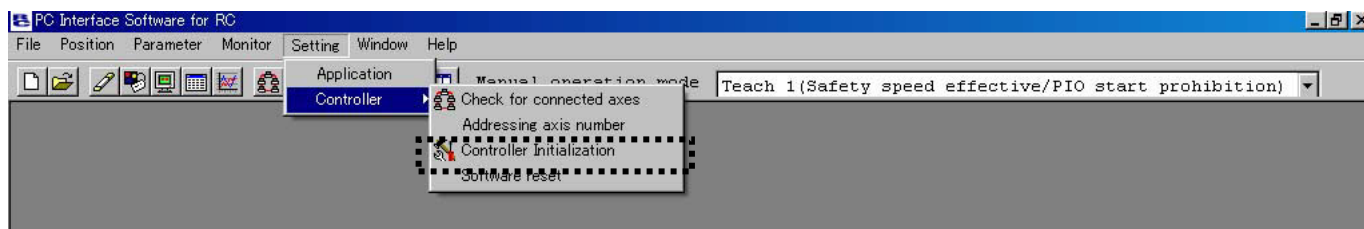

Fig. 17.3 Menu Bar (Parameter Initialization (Factory Default Setting))
- (2) Input the password (5119) on the displayed input password window, then the “Controller Initialization” (factory default setting) menu is displayed (Fig. 17.3).